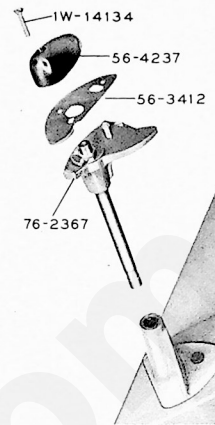

Figure 23.
b. Remove plastic handle and separator. See figure 23.
b. Lift out post. See figure 23.